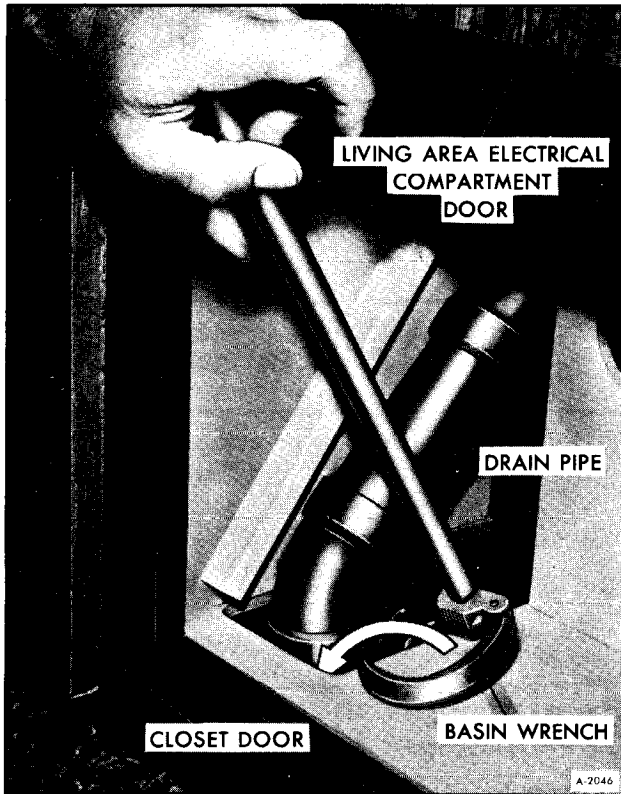

Figure 3—Loosening Pipe Fitting-Model 260
8. On Model 260, remove the drain pipe access cover inside the storage compartment below the Living Area Electrical Compartment then use a basin wrench as shown in Figure 3 to loosen pipe fitting from tank.
1. Position holding tank and secure with two mounting brackets. On Model 230 torque nuts to 95-145 in.-lbs. On Model 260 install nuts and tighten with fingers. Tighten pipe connector into tank, using a basin wrench as shown in Figure 3. Install and secure drain pipe cover with three (3) screws. Torque holding tank bracket nuts to 95-145 in. lbs.